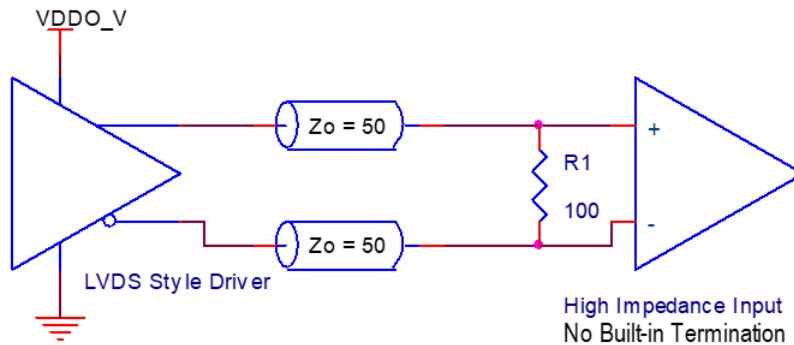
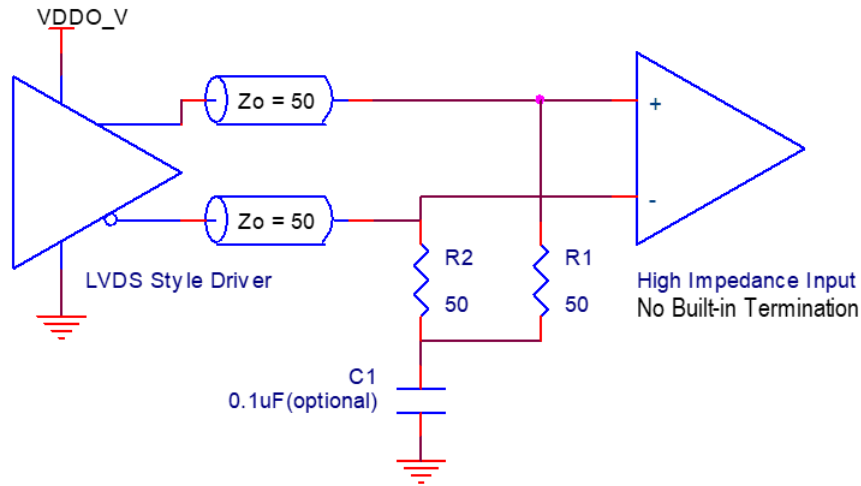
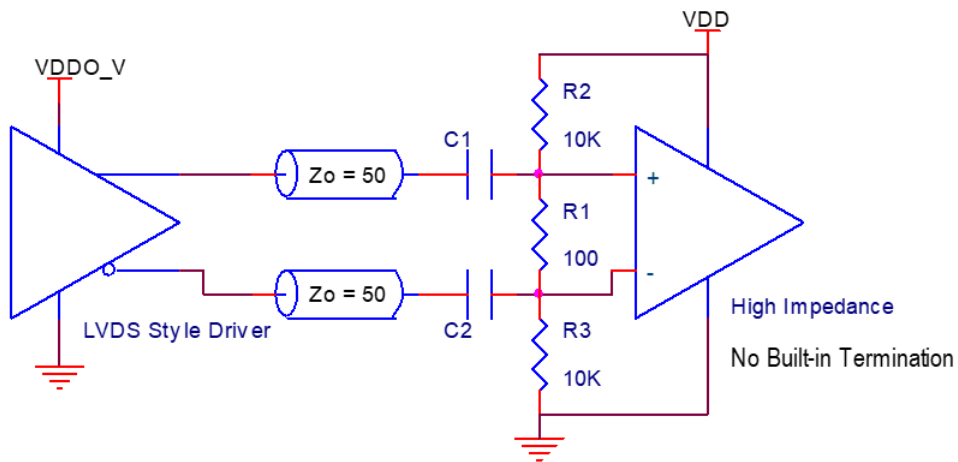

Figure 30. LVDS Style Driver Termination (DC Coupled)
Figure 31. LVDS Style Alternative Driver Termination (DC Coupled)
Figure 32. LVDS Style Alternative Driver Termination (AC Coupled)^[2]
Unlike the LVPECL style driver, the LVDS style driver does not require a board-level pull-down resistor. Figure 30 and Figure 31 show typical termination examples with DC coupling for the LVDS style driver. A termination example with AC coupling is shown in Figure 32. All three of the figures are for LVDS receivers with a high-input impedance (no built-in 100Ω termination).
2. For receivers with built-in 100Ω termination that provides its own DC offset (self-bias): Apply the AC-coupled termination shown in Figure 32 and do not populate the resistors R1, R2, and R3.